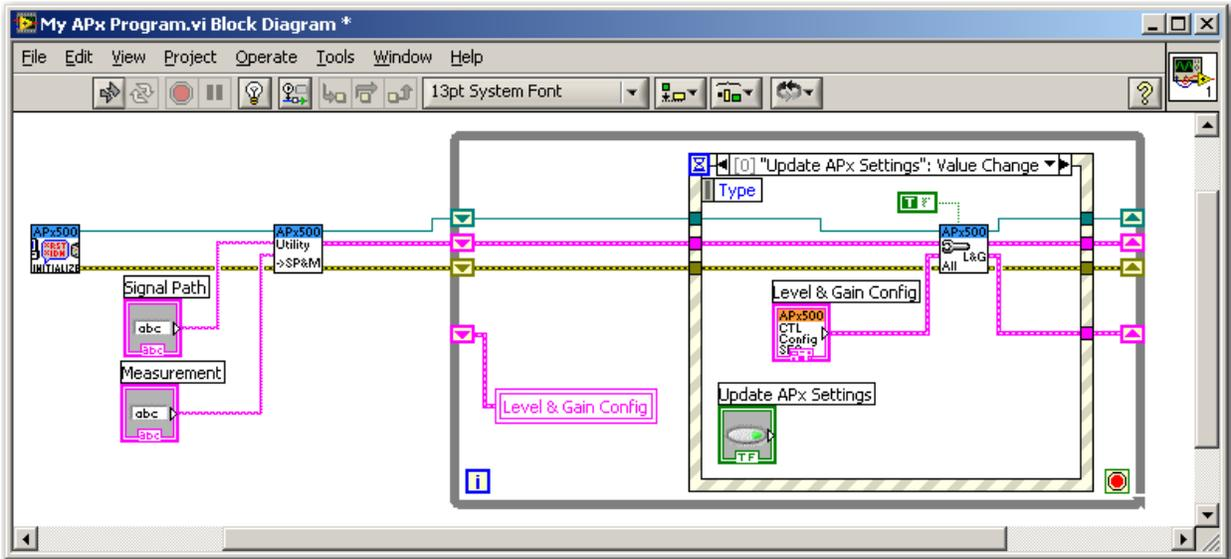

Figure 38
5. Create a local variable for the Level & Gain Config control as follows. Right-click on the control's terminal on the block diagram and select Create – Local Variable. Insert the local variable between the beginning of the While Loop and the Event Structure, and wire it as shown. You will need to add another shift register to the While Loop (Figure 38).